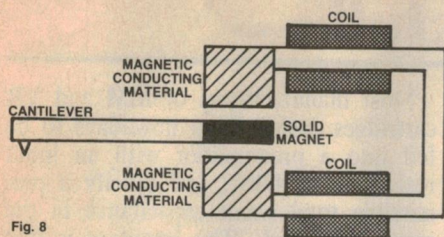

Fig. 8
**Fig.8: Illustrating the moving magnet system.** For simplicity, only one pair of coils, for one channel, is shown. The induced magnet system is an elaboration of this same principle.
Fig.8 depicts, in highly simplified form, the operation of an MM (moving magnet) type cartridge. A tiny magnet, mechanically coupled to the stylus cantilever, moves physically in the space between the pole faces, modulating the magnetic field and inducing signal voltage in the associated coils.
Fig.9 closely resembles Fig.8 but illustrates the variable reluctance approach, as expressed in Ortofon's VMS (variable magnetic shunt) type cartridge.